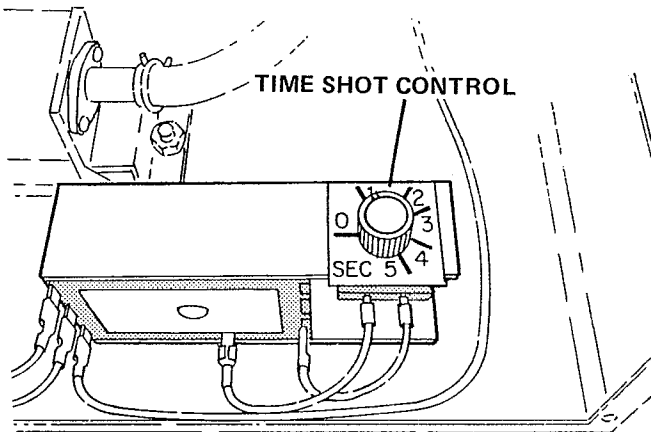

Figure 2
4.2 Locate Time Shot Control (See Figure 2).